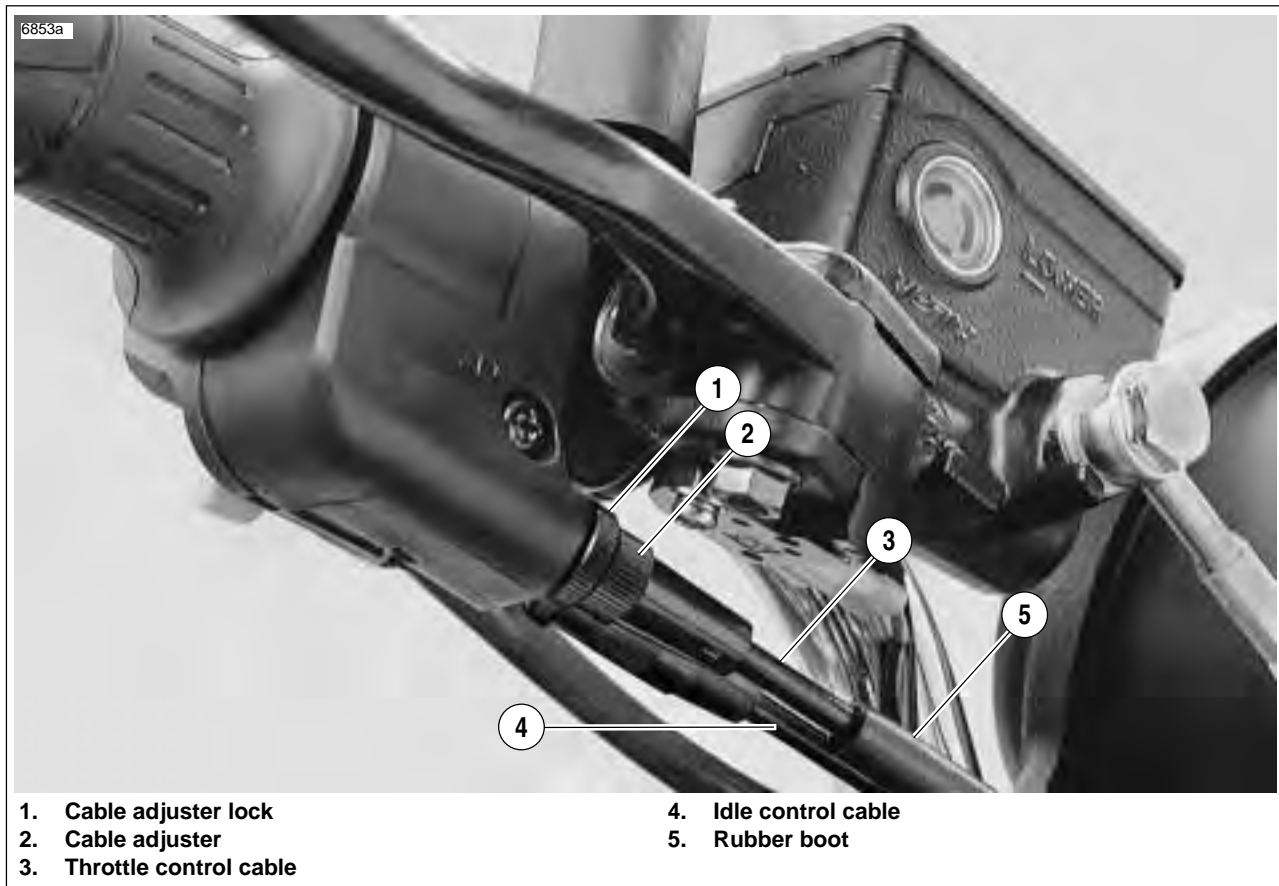

Figure 1-40. Throttle Cables
1. See Figure 1-40. Slide rubber boot (5) off cable adjuster (2).
2. Loosen cable adjuster lock (1) on each adjuster.
3. Turn adjusters (2) in direction which will shorten cable housings to minimum length.
5. Turn adjuster on throttle control cable (3) until throttle cam stop touches carburetor stop plate. Tighten adjuster lock on throttle control cable adjuster; release throttle control grip.
6. Turn handlebars fully to right. Turn adjuster on idle control cable (4) until end of cable housing just touches the carburetor cable guide.
7. Twist and release throttle control grip a few times. Carburetor throttle must return to idle position each time throttle grip is released. If this is not the case, turn adjuster on idle control cable (4) (shortening cable housing) until throttle control functions properly.